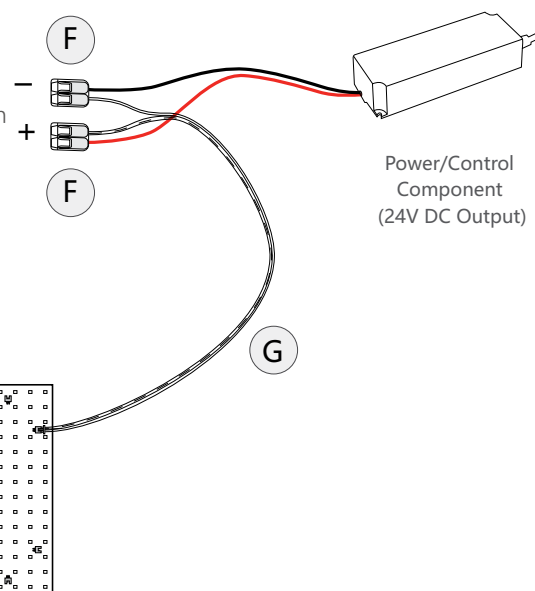

Figure 8
Power lead (G): Use the power lead (G) to route power from the power supply to a single sheet or a set of up to eight Light Sheets. See Figure 8.
Splicing connectors (F): are provided for convenient power connection to the supply wires. They can be used in place of wire nuts, securing wires of the same polarity together. The grey striped wire of the power lead (G) is positive (+) and the solid white wire is negative (-). See Figure 8. Splicing connectors (F) are provided for convenient power connection to the supply wires. They can be used in place of wire nuts, securing wires of the same polarity together. The grey striped wire of the power lead (G) is positive (+) and the solid white wire is negative (-). See Figure 8.